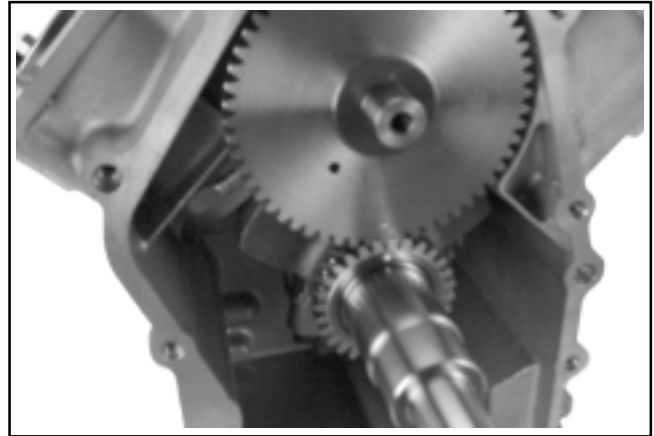

Figure 11-10. Alignment of Timing Marks.
5. Carefully slide the keyway end of the camshaft through the seal and engage the camshaft into the bearing surface of the crankcase. Position the timing mark of camshaft gear at the 6 o'clock position matching the timing mark on the crankshaft. Make sure the camshaft gear and crankshaft gear mesh and the timing marks are aligned as shown in Figures 11-10 and 11-11.